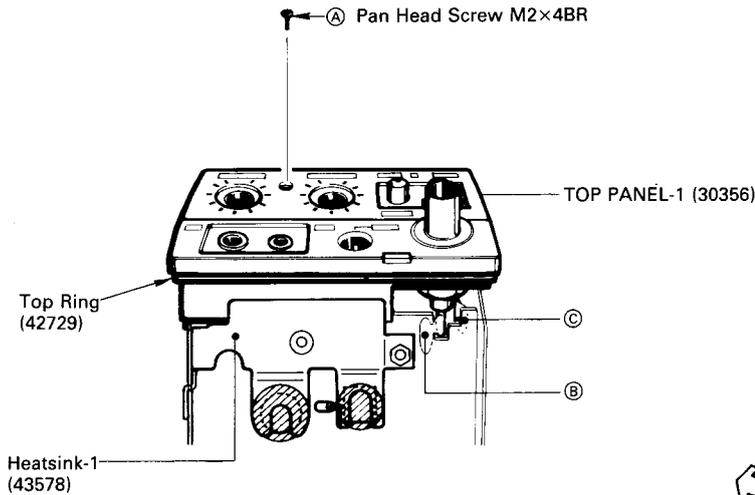

Fig. 5-2-1
1. Remove screw (A) as shown in Fig. 5-2-1.